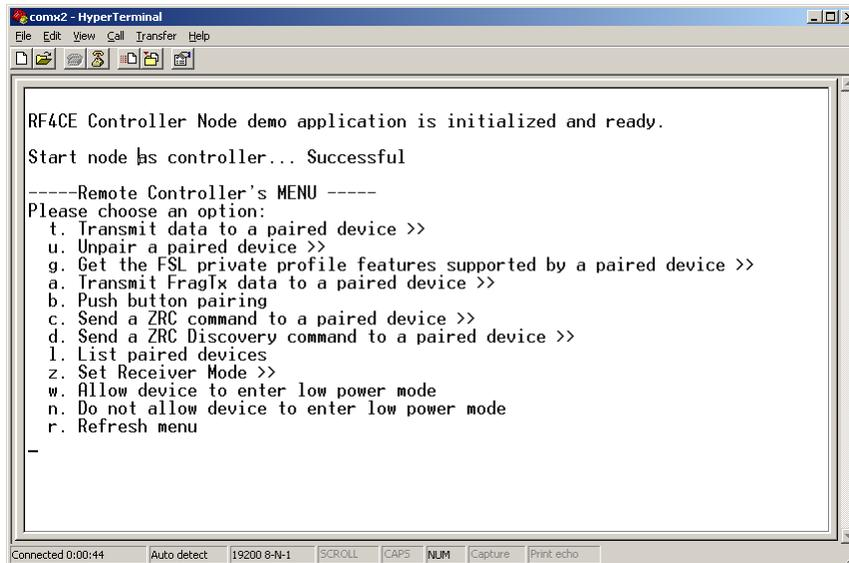
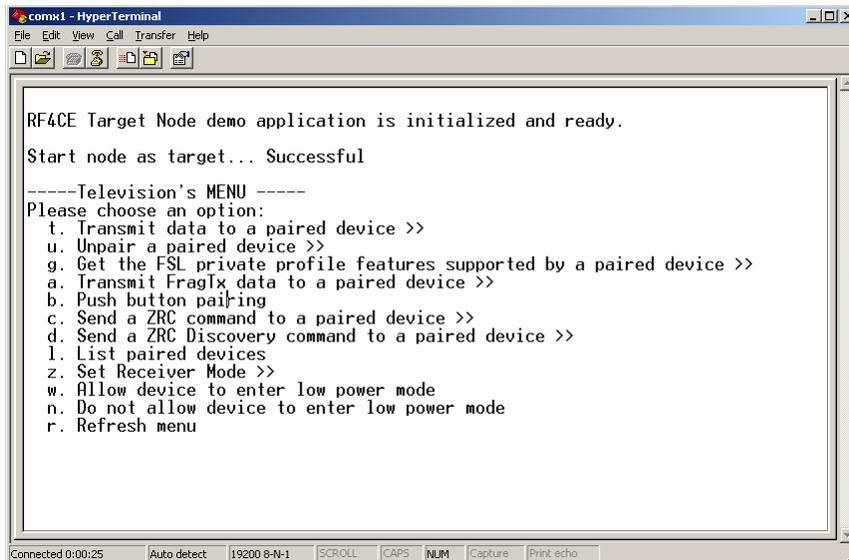

Figure 3-3. Controller Node UART Terminal Menu
Figure 3-4. Target Node UART Terminal Menu
- Turn on the power for the Controller and Target boards. Each application will start the node and will print a menu on the assigned Hyperterminal program as it shows the Figure 3-3 and Figure 3-4